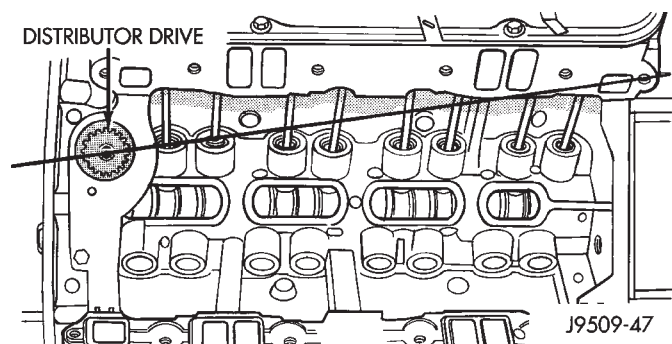

Fig. 37 Position of Oil Pump Shaft Slot
(1) Rotate crankshaft until No.1 cylinder is at top dead center on the firing stroke.
(2) When in this position, the timing mark of vibration damper should be under "0" on the timing indicator.
(3) Install the shaft so that after the gear spirals into place, it will index with the oil pump shaft. The slot on top of oil pump shaft should be aligned towards the left front intake manifold attaching bolt hole (Fig. 37).